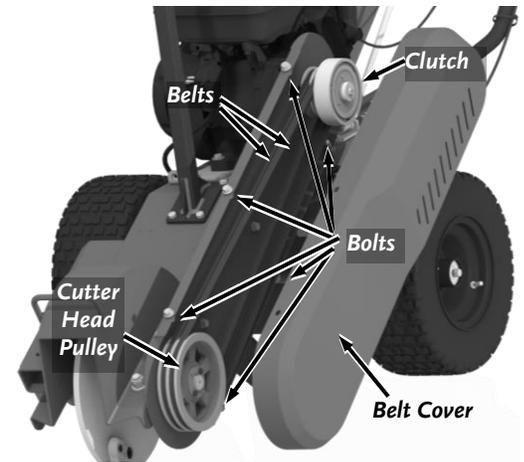

Figure 17
2. Remove the six Bolts securing the Belt Cover using a 9/16" Wrench. Set aside the Belt Cover to expose the Belts (**Figure 17**).